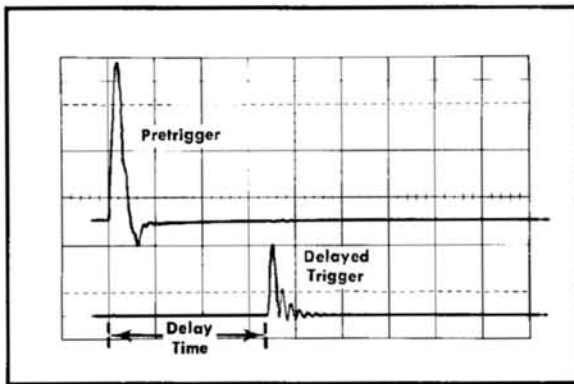

Fig. 5-26. Test oscilloscope display for checking pretrigger and delayed trigger output pulses.
- Position the pulses on the CRT so that they do not overlap (see Fig. 5-26).